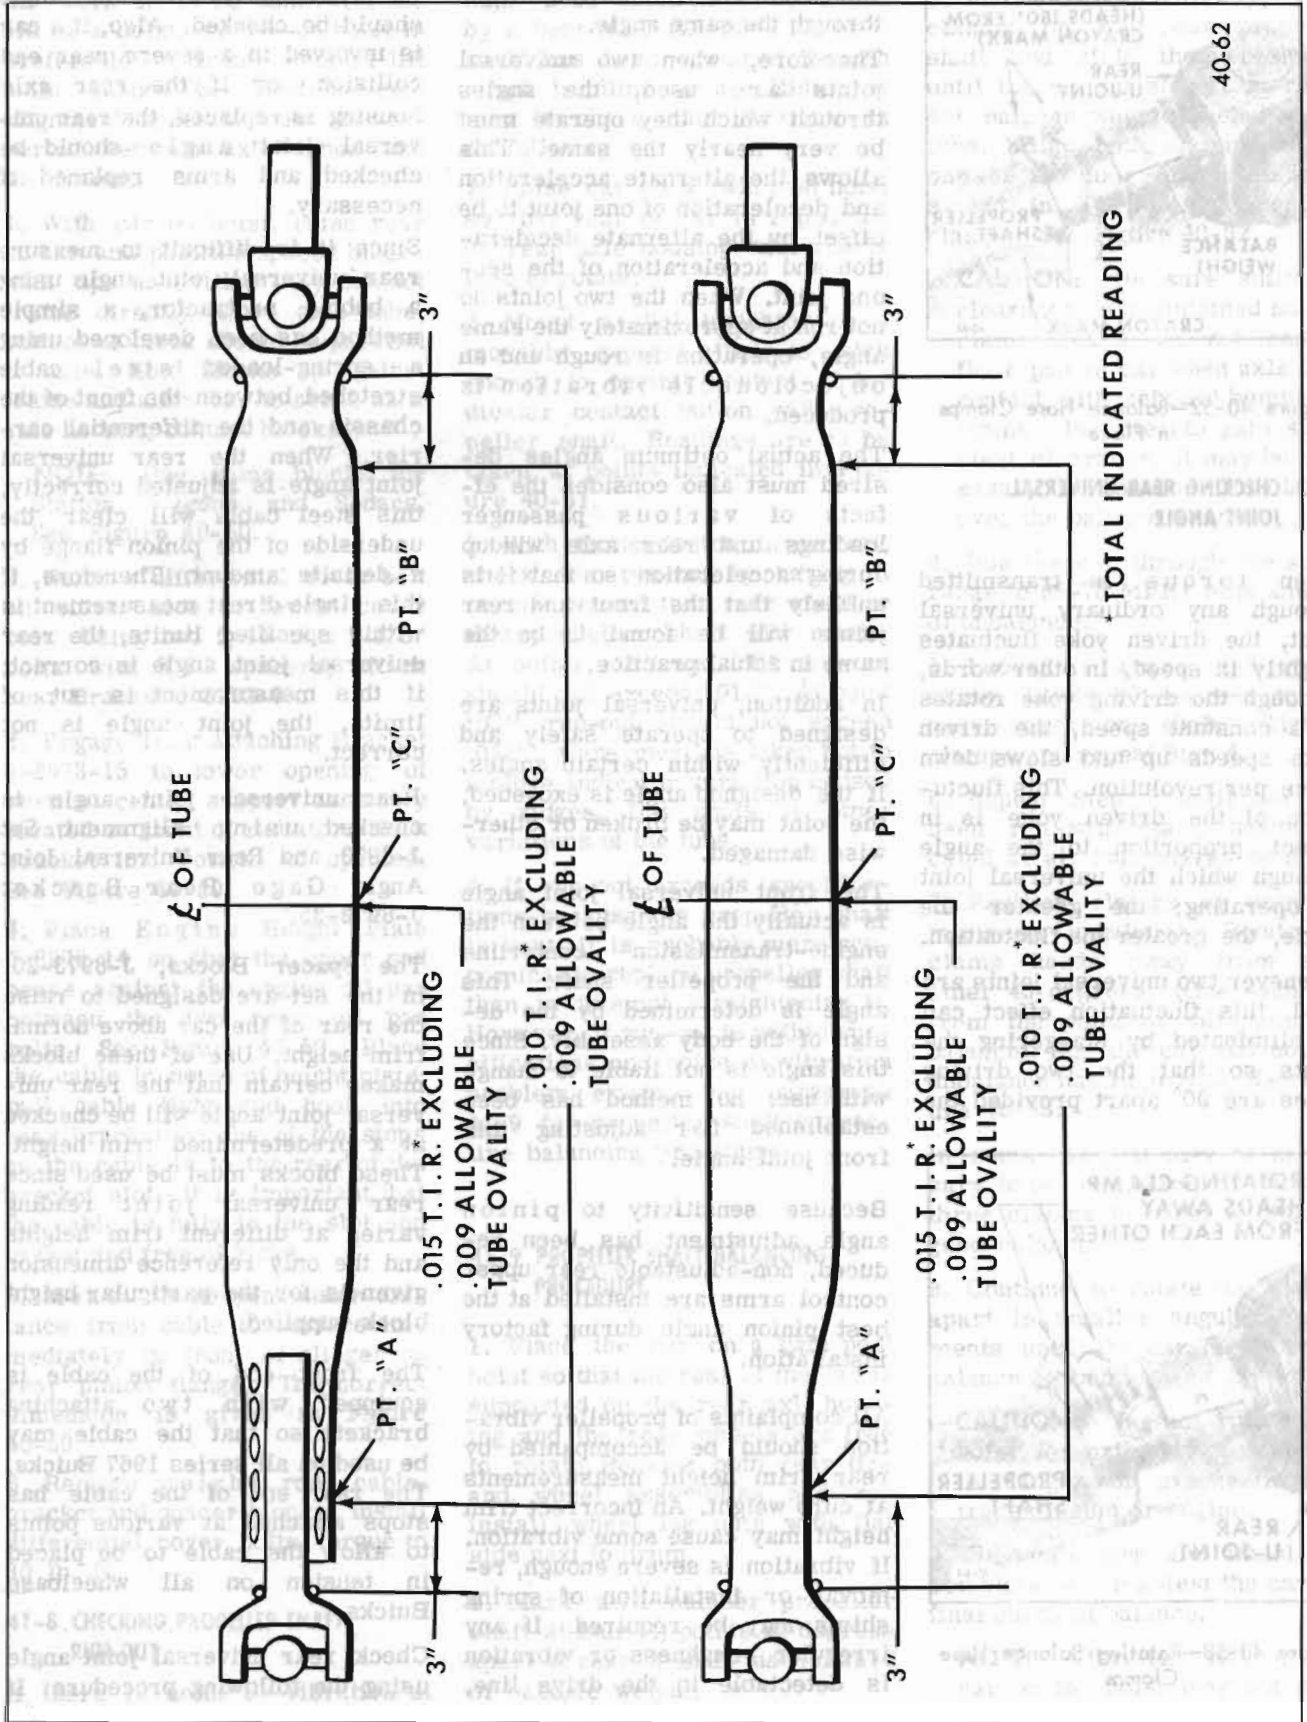

Figure 40-51—Checking Propeller Shaft Run-Out
2. Mount a dial indicator on a movable support that is high enough to permit contact of indicator contact button with propeller shaft. Readings are to be taken at points indicated in Figure 40-51.